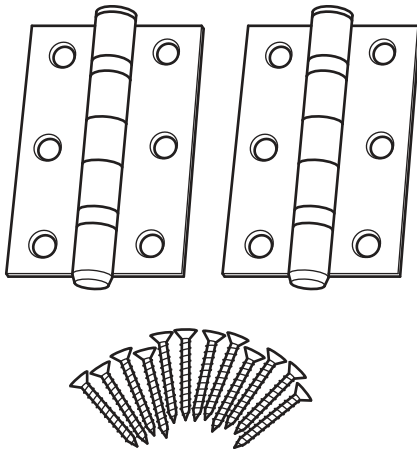

Figure 7.1
- 7 Figure 7.1 shows a pair of door hinges and screws that are standardised components in the furniture-making industry.